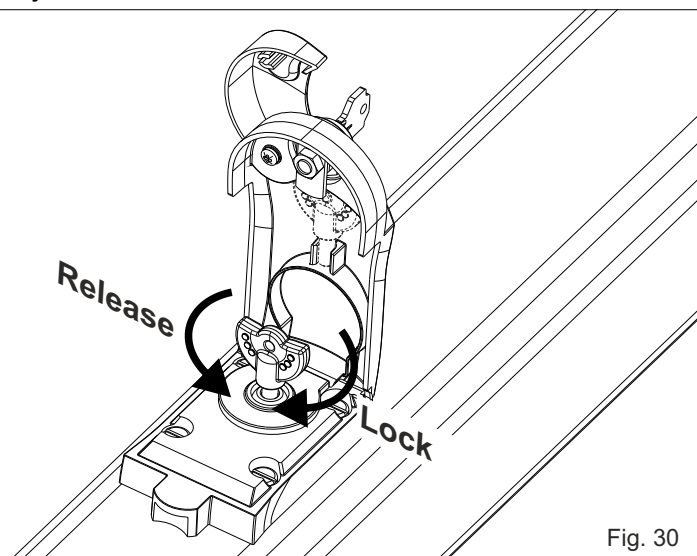

Fig. 30
- Release the unit (as in Fig. 30).
Take the red key located under the lid, insert it and turn it about 90° anti-clockwise (see fig.30).
turn the red key clockwise until it stops (see fig.30), remove it, put it under the lid and close the lid again.